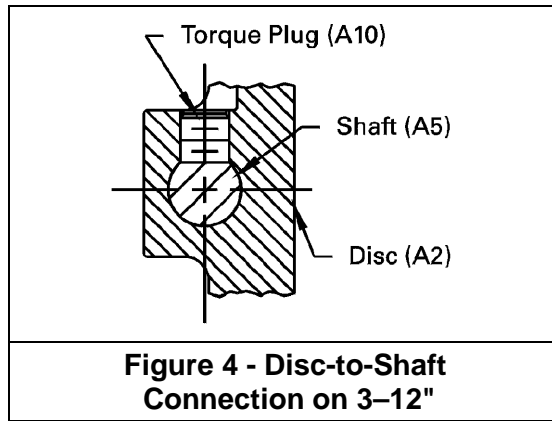

Figure 4 - Disc-to-Shaft Connection on 3–12"
- On sizes 3–12", align and center the flat on the shaft with the tapped hole in the disc. See Figure 4. On sizes 3–6", apply one bead of Loctite 242 along half the depth of the threads tapped hole; on sizes 8–12", apply two beads, on opposite sides. Apply one bead to the threads of the torque plug (A10) and screw the torque plug into the disc and tighten to the torque shown in Table B.